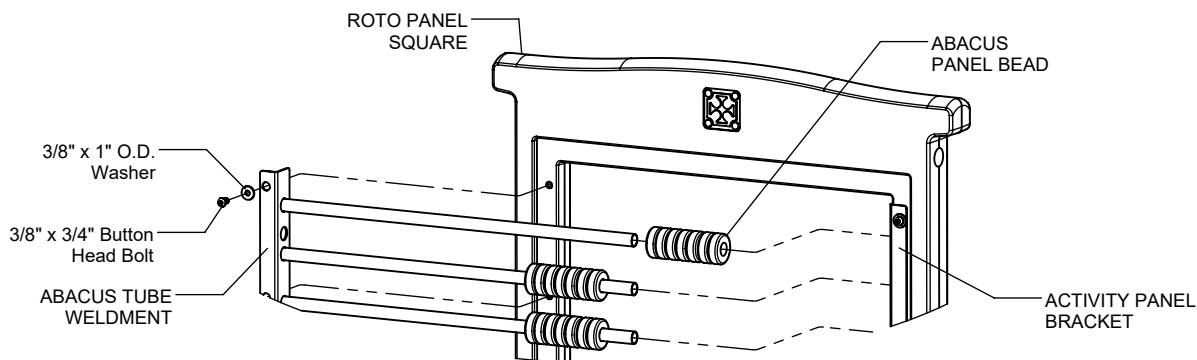

FIGURE 4
Place (7) Abacus Panel Beads onto each Activity Panel Tube of Abacus Tube Weldment and attach to Abacus Panel as shown in Figure 4. (See Note A)